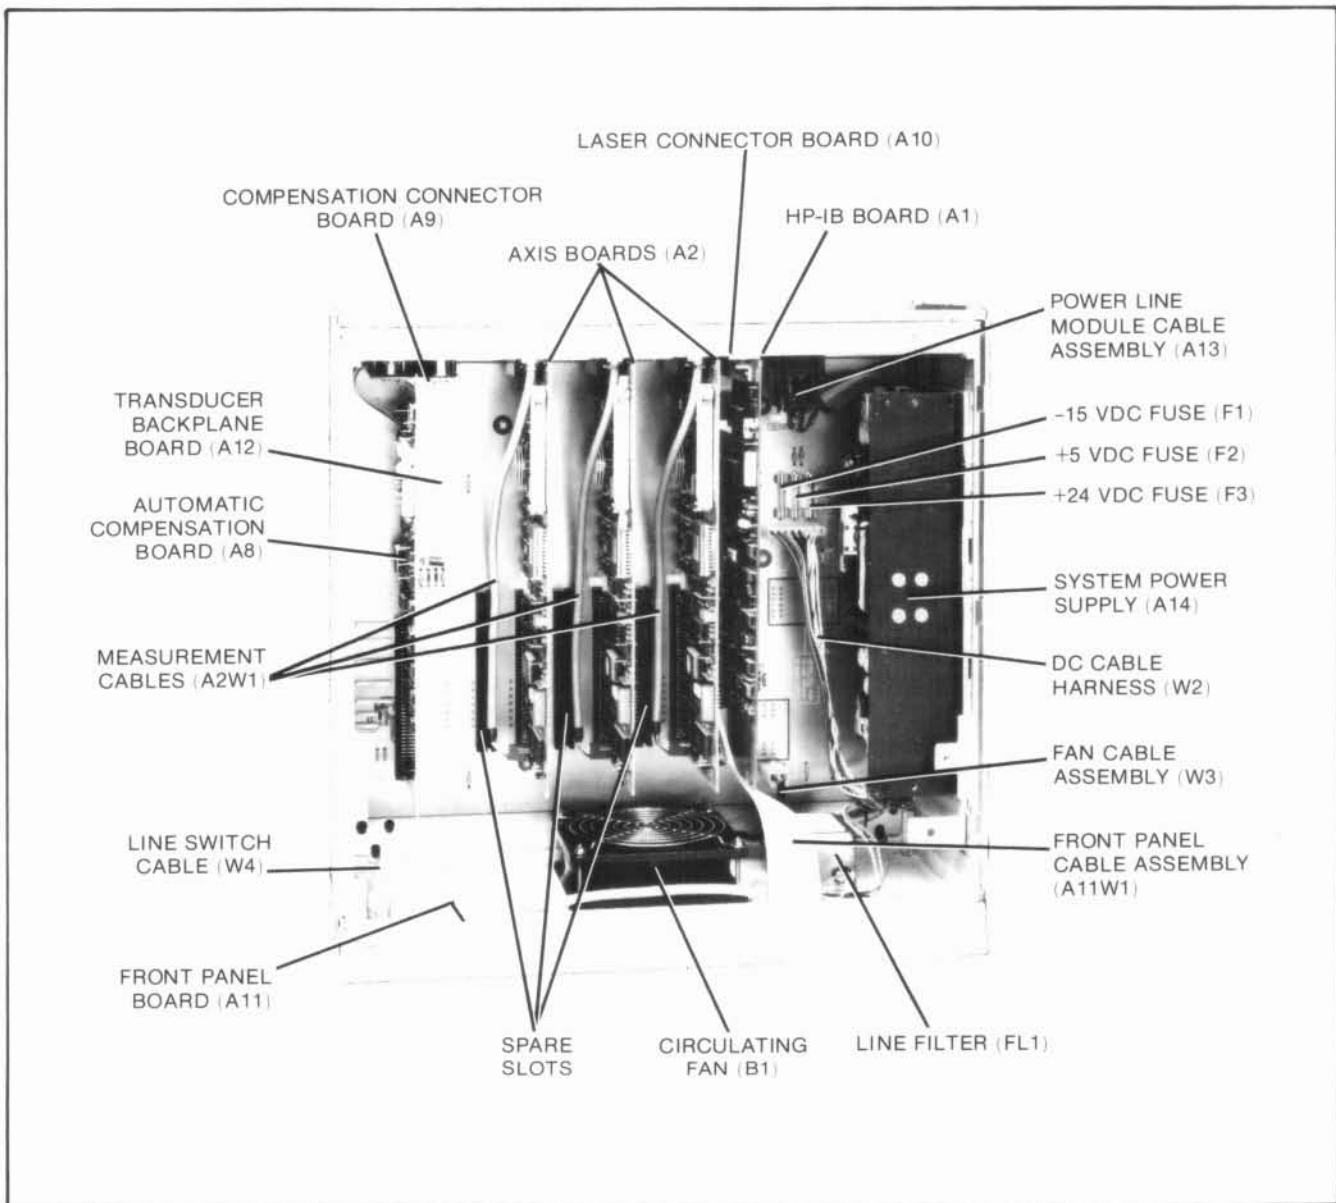

Figure 7-11. HP 5507A Interior View
- b. Remove the power supply's High Voltage Shield and measure the voltage on the +5V line from the power supply at connector J2 (*see Figure 7-11*). BE CAREFUL! USE PROBES WITH LONG INSULATED HANDLES SO THAT YOUR HANDS ARE NOT EXPOSED TO THE POWER SUPPLY CIRCUITRY! If the voltage does not measure $+5 \text{ Vdc} + 0.05 \text{ V}$ or -0.15 V , try to adjust the voltage following the procedure outlined in the "Adjustments" paragraphs. If this adjustment is not possible, replace the power supply. If the voltage measures OK, measure the voltage at pins 39 and 79 on the backplane connector (XA1) of the HP-IB board. If the voltage measures $+5 \text{ Vdc} + 0.05 \text{ V}$ or -0.15 V , replace the HP-IB board. If the voltage is outside the acceptable range, check the backplane and/or connector.